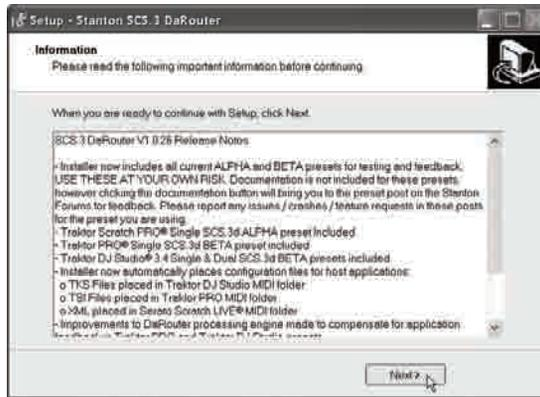

Figure 4.11
11. Click **Next**. (Figure 4.11)